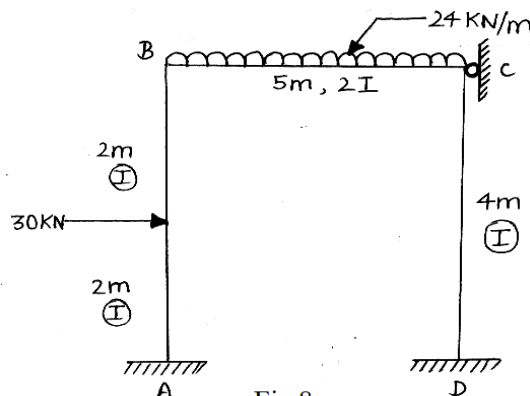

Fig 8
8. Analyze the frame shown in Fig. 8 by matrix stiffness method using element approach. Draw BMD.